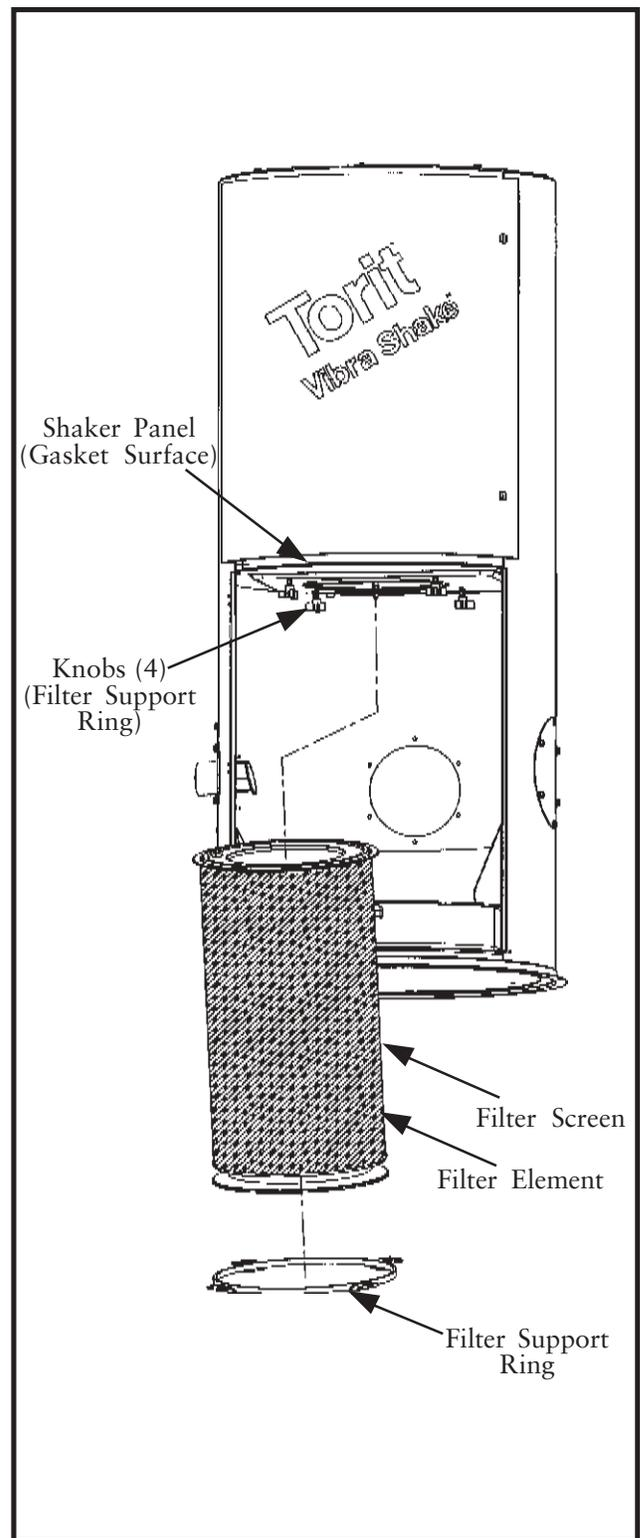

Figure 17
6.1 Filter Replacement (See Figure 17)
a. Filter screen not in place.	6a. Check the filter screen to make sure that it has not slid down. The screen has a velcro seam for easy installation and removal. The screen must be stretched tightly around the filter and located all the way to the top of the filter end cap, covering the perforated liner completely (reference Figure 17 Filter Replacement).
b. Plugged filter screen.	6b. If the filter screen is plugged, remove and wash in cold water only. Note: Hot water will cause screen shrinkage. To reinstall, reference Figure 17 Filter Replacement.